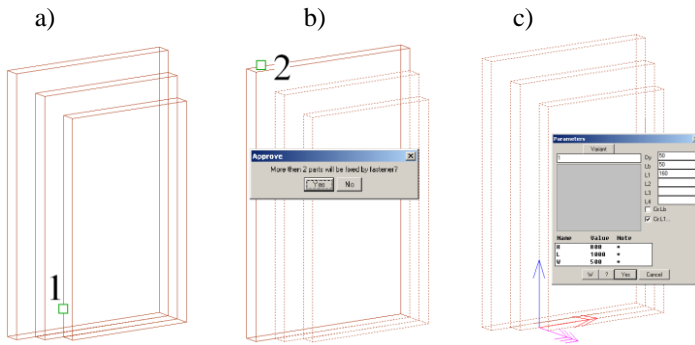

Fig. 3.83 Fixing three parallel Parts by dowels
**point #N / Base edge:* Specify an edge one of external Parts, see fig. 3.83 a), specifying “1”.
Enter Fasten parameters in the dialog window, see fig. 3.83 c).